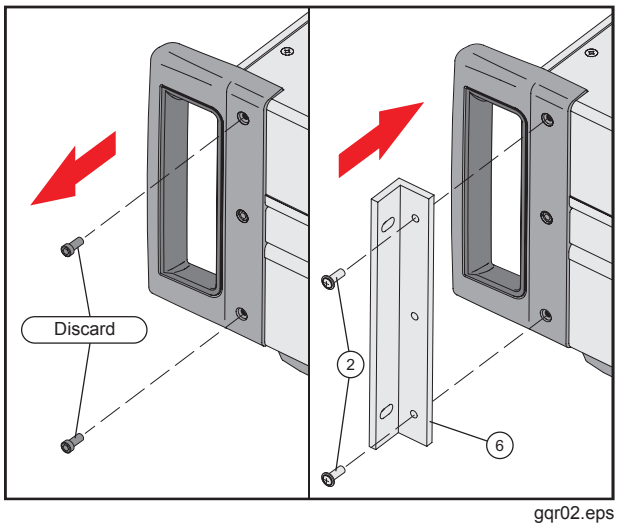

Figure 3. How to Install the Rack Ears
1. Use the Allen Hex Key Wrench supplied in this kit to remove the top and bottom attachment screws on the front left and right handles as shown in Figure 3.
2. Install the Rack Ears on the front left and right handles with two #8-32 x 1/2" Pan-head Phillips Screws as shown in Figure 3.